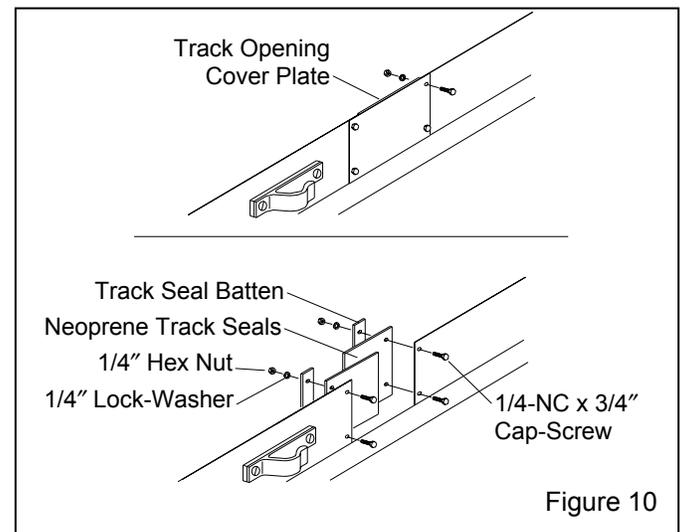

Figure 10
**3.4.2.1** Remove both track opening cover plates, and replace them with track seals as shown in Figure 10.